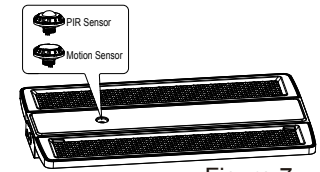

Figure 7
Step 2. Twist-lock the DC sensor into the base to make it work properly. (Figure 7)